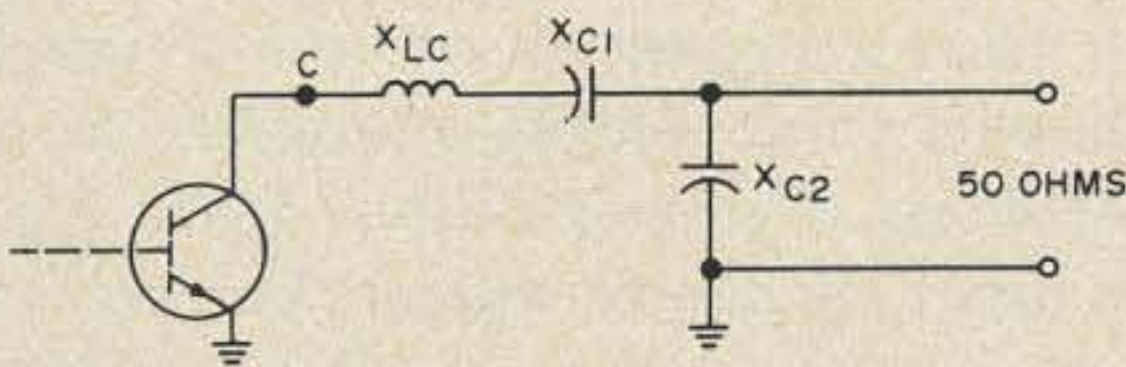

Fig. 12.
2. By using the following simple circuit (see Fig. 12), we may match the collector load impedance, R_{c1} , to 50Ω. This assumes you are developing enough power to make R_{c1} less than 50Ω., i.e. appx. 1.4W @ 12V. If this is not the case, other simple variations of this circuit can be used, for example, reverse it.